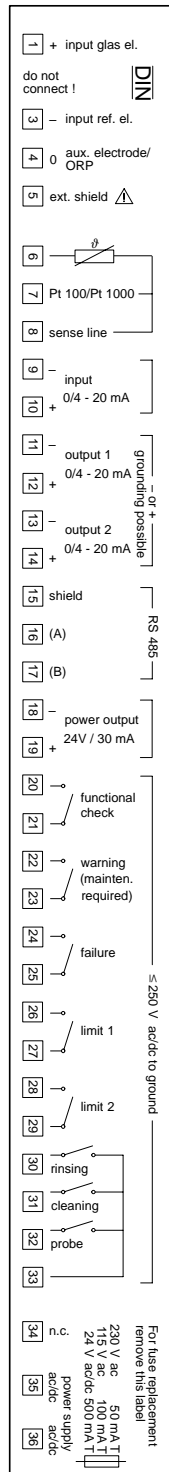

Fig. 10–6 Terminal Assignments pH Transmitter 2500
Transcribe the specifications from the rating plate of the pH Transmitter 2500 to the rating plate (1) supplied with the protective case. See Fig. 10–5.
To connect the pH Transmitter 2500, open the cover of the terminal compartment (lower part of the instrument) by removing the three screws. Refer to Fig. 10–6 for terminal assignments. The terminals are suitable for solid wires and stranded wires up to 2.5 mm².